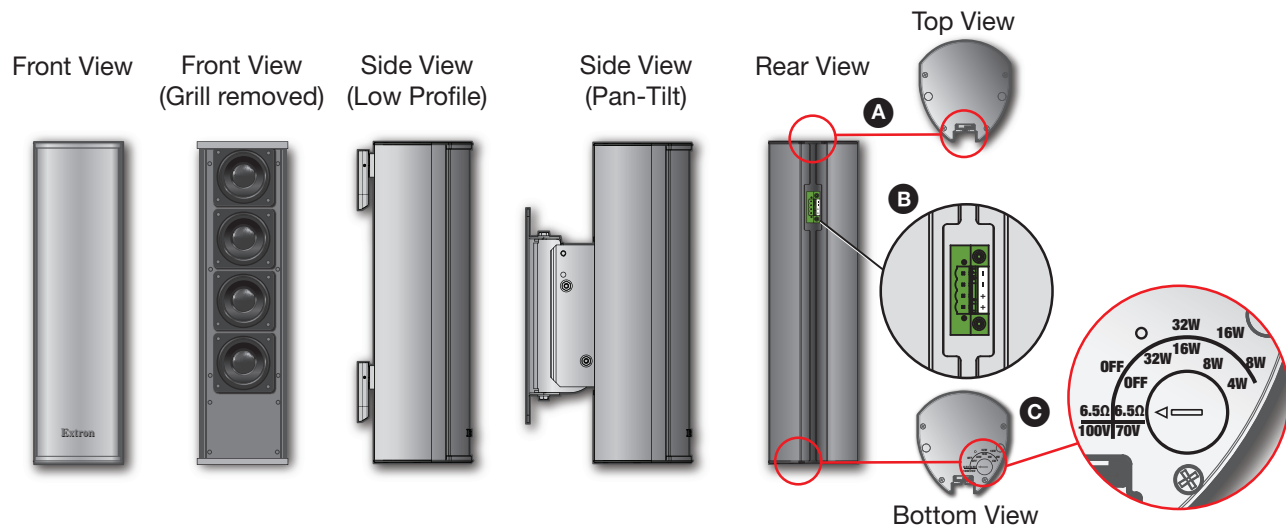

Figure 2. CA 43T Product Diagram
- A** Mounting Bracket T-slot (see figure 2) — Runs the entire length of the speaker enclosure. Carriage Bolts (for SMK LP CA) or Anchor Plates (SMK PT CA) can slide in through either end to the desired locations. Secure and re-adjust if needed.